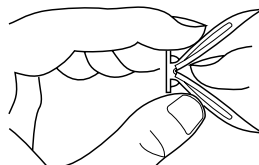

Figure 14 - Folding Anchor
2. Fold wall anchor as shown in Figure 14.